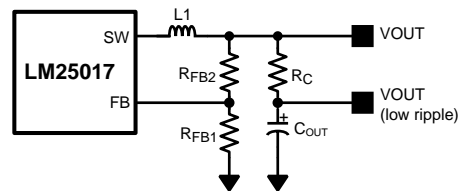

Figure 13. Low Ripple Output Configuration
This regulator regulates the output voltage based on ripple voltage at the feedback input, requiring a minimum amount of ESR for the output capacitor (C_{OUT}). A minimum of 25mV of ripple voltage at the feedback pin (FB) is required for the LM25017. In cases where the capacitor ESR is too small, additional series resistance may be required (R_C in Figure 13 Low Ripple Output Configuration).
For applications where lower output voltage ripple is required the output can be taken directly from a low ESR output capacitor, as shown in Figure 13 Low Ripple Output Configuration. However, R_C slightly degrades the load regulation.